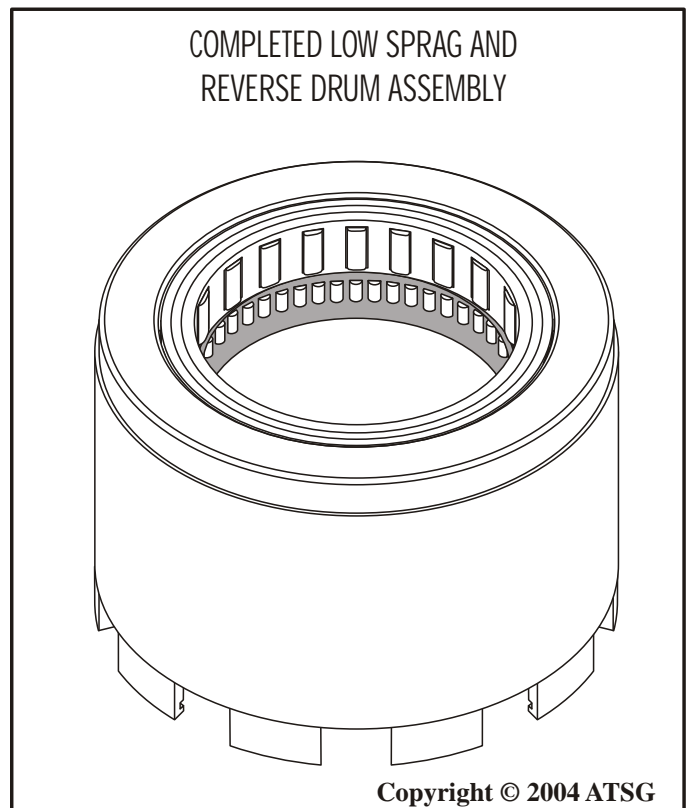

Figure 98
4. After inspection and re-assembly if necessary, set the completed reverse drum assembly aside for the final assembly process (See Figure 98).